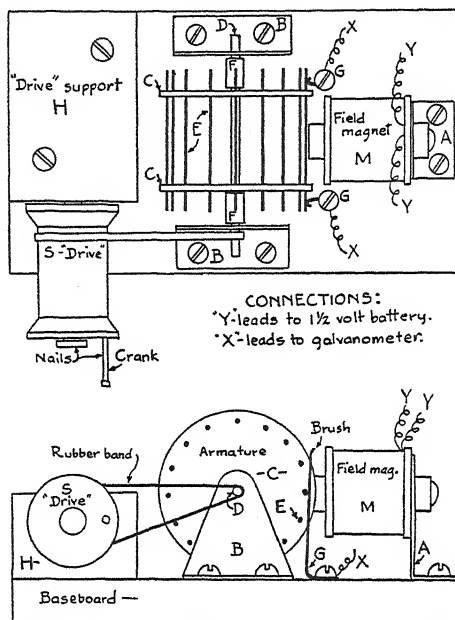

FIG. 67. A simple d.c. generator.
**Experiment 30.** Making a simple d.c. generator. Materials needed: materials for an electromagnet, as shown in Figure 67; some tin-can iron; a wooden spool; a rubber band; nails, screws, etc., for assembling parts on a wooden base.
First, make a very strong electromagnet as was made in Experiment 5. Make a sheet-metal (tin) support bracket for the magnet *M*, as shown in Figure 67 at *A*. Do not mount the magnet on the baseboard yet, as the placement also depends on the armature and drive-pulley details. The electromagnet will be the generator's field.
flux of the field magnets. Of course, some kind of sliding contact (brushes) is needed to keep contact with the revolving armature conductors. Examine Figure 67 for details of the "armature" shown there.
Make two armature end pieces, *C*, as shown in Figure 67, about  $1\frac{3}{4}$  in. in diameter, out of heavy cardboard. Punch holes in these cardboard disks with a large pin or needle, so a shaft, *D*, and copper wires, *E*, can be put in place. The shaft, *D*, may be a nail with the head cut off, leaving about  $2\frac{1}{2}$  in. of shaft. The armature wires, *E*, should be sixteen  $1\frac{1}{2}$ -in.-long pieces of bare copper wire, about No. 18.
Adjust the assembled armature pieces on the shaft, in the middle. The armature wires, *E*, should protrude beyond the disks about  $\frac{1}{4}$  in., as shown in Figure 67, to form the commutator bars. (The commutator is only a kind of sliding-contact connection to the moving coils of an armature.) A little glue may be used to hold all these armature parts securely in place on the nail shaft.
Make two tin bearing supports for the armature, as shown by parts *B* in Figure 67. These bearings may be bent as shown, after carefully marking them exactly the same size, and drilling the holes for the armature shaft. Make these bearings of such a height that the armature center comes even with the magnet center, when mounted as shown in Figure 67, to make the best job.
The parts may now be assembled on a baseboard, made of about 3 by 5 by  $\frac{1}{2}$ -in. pine. Two short tin tubes or some small buttons or beads may be used to space the *B* bearing plates from the armature ends, as shown at *F* in Figure 67. See that
Connect the field magnet, *M*, to the battery, by the leads, *Y*, as shown in Figure 67. Connect the armature leads, *X*, to the galvanometer or milliammeter, rigidly supported with a book or two.
Examine your model generator as made in Experiment 30 and shown in detail in Figure 67. Notice that, as each armature bar comes to a place, it cuts the field-pole flux in a certain direction; the brushes at that instant contact that bar and connect it to the main line. At just the right instant, as the armature turns around and a new bar is cutting the flux of the field pole, the commutator and brushes have automatically connected in the new bar and disconnected the first one from the circuit.